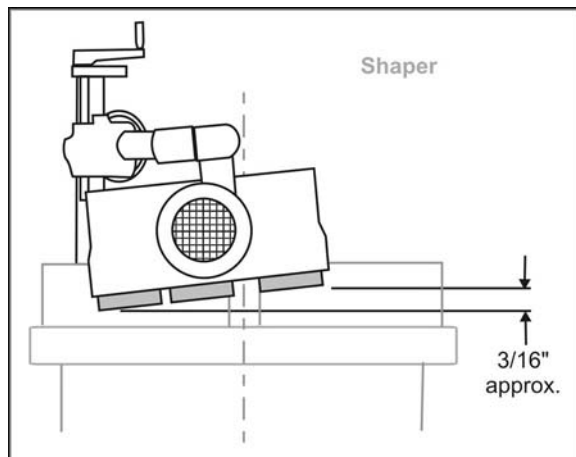

Figure 19
- When the Stock Feeder is in edgewise position, it must be inclined slightly towards the work table in the direction of feed, to ensure the workpiece remains forced down against the table. In other words, the outfeed roller should be approximately $3/16''$ closer to the work table than the infeed roller. See Figure 19.
- When the Stock Feeder is in the edgewise position, or angled for a beveled workpiece, the axis of the cutter should be between the infeed roller and the center roller (between the two center rollers on the 4-roller model). See Figure 19. The center roller should NOT be directed toward the opening between the fences, but should act directly against the fence.